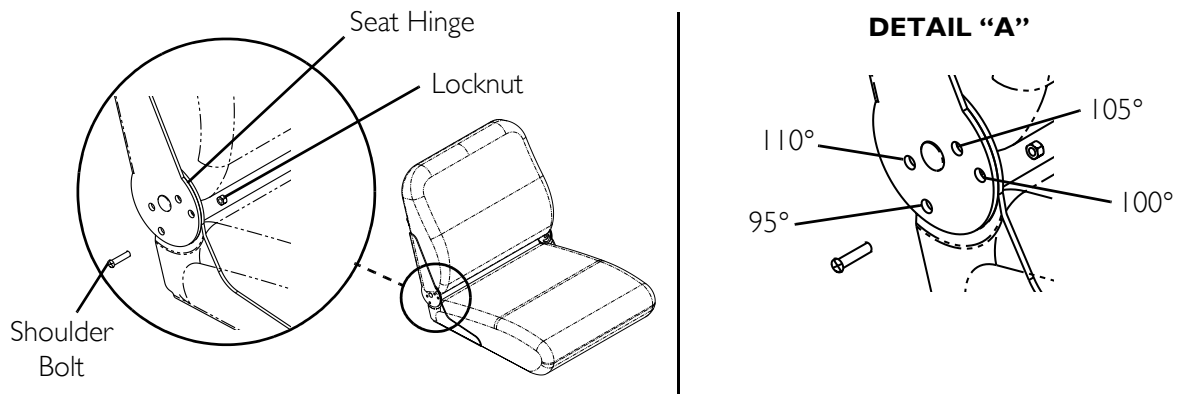

FIGURE 7.2 Adjusting the Back Angle - Fold Down Back Angle
NOTE: For this procedure, refer to FIGURE 7.2.
1. Remove the two (2) shoulder bolts and locknuts from the seat hinges on either side of the seat.
2. Select one (1) of the four (4) back angle positions as shown in Detail "A" of FIGURE 7.2.
3. Reinstall and tighten the two (2) shoulder bolts and locknuts through the desired back angle setting on each seat hinge.